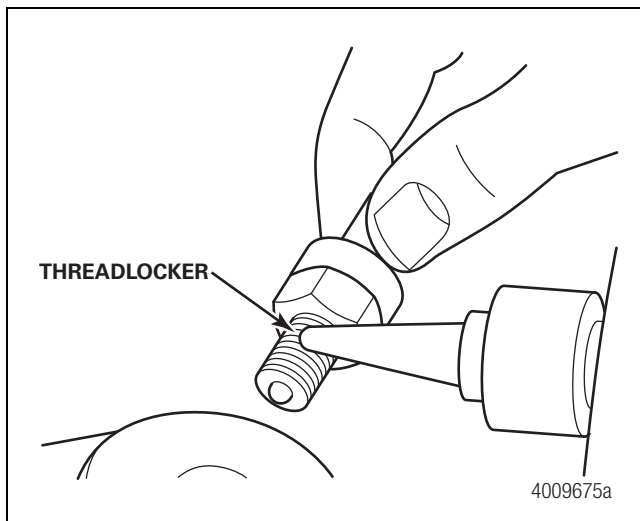

Figure 6.14
- Apply Loctite® 5127 threadlocker to the switch threads. Figure 6.14.